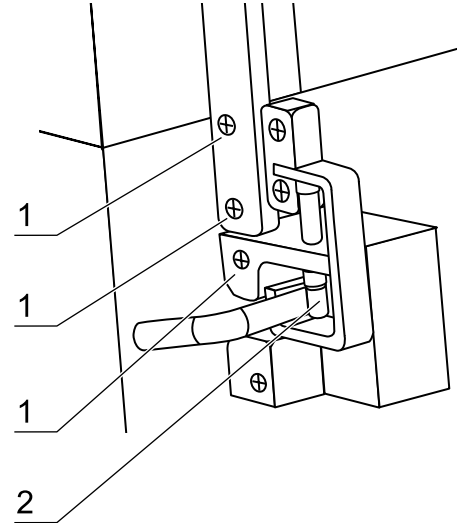

Fig.31,
5. Fig 31: Remove the retaining screws [1] and remove the latch.